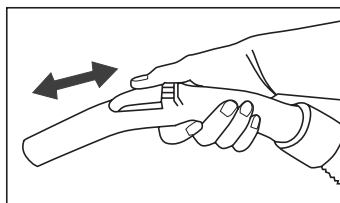

Fig. 5
4. The suction can be released quickly by moving the suction release slider on the top of the flexible hose handle (fig. 5).